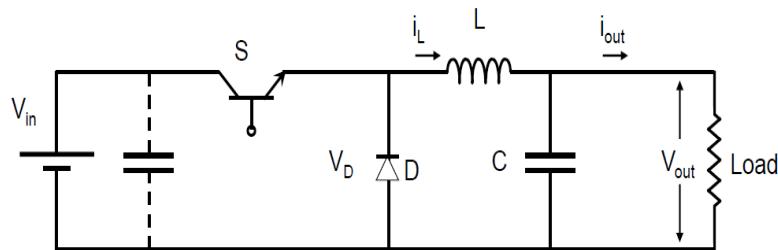

Fig.2 (a) Practical Buck converter circuit
Figure 2 (a) shows the circuit diagram of buck converter that use to step down the dc voltage. This is DC to DC converter. The circuit consists of switch (IGBT, MOSFET etc.) DC voltage, Inductor to stored energy, to filter ripple in DC Voltage capacitor is conncted, diode and Load (R). Buck converter operates in two modes of operation.